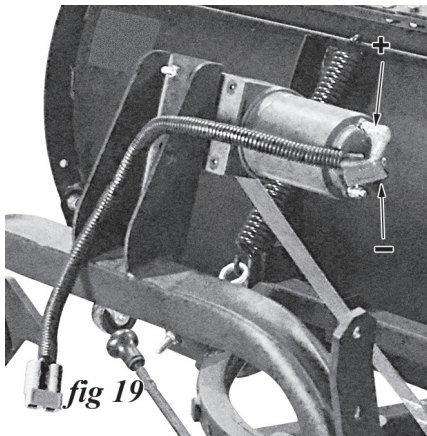

fig.18
1. Connect the winch leads (fig.18), tagged "To Motor", to the contacts on the winch motor as shown (fig.19). Be sure the rubber caps cover the connections well to prevent water entry. The red lead should be connected to the positive (+ upper) terminal on the winch, and the black lead connected to the negative (- lower) winch terminal.